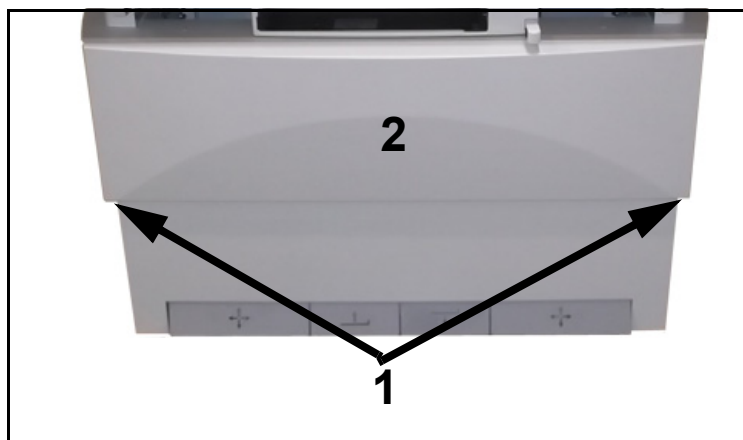

Figure 4-4. Upper Panel Screws
- 3 Unscrew the two upper panel screws (1 in Figure 4-4).
- 4 Unscrew the upper panel screws (1 in Figure 4-4), tilt panel (2) out, and lift off from the table.